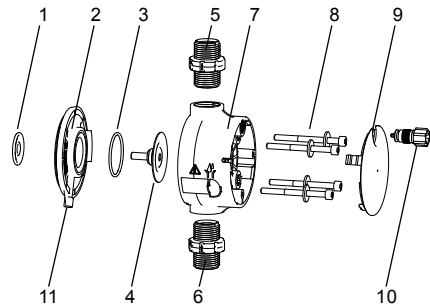

Fig. 10 Dosing head, exploded view
Daily	Check, if liquid leaks from the drain opening (fig. 10, pos. 11) and if the drain opening is blocked or soiled. If so, follow the instructions given in section 7.4 Diaphragm breakage .
This section refers to fig. 10.
If the diaphragm leaks or is broken, dosing liquid escapes from the drain opening (fig. 10, pos. 11) on the dosing head.
In case of diaphragm breakage, the safety diaphragm (fig. 10, pos. 1) protects the pump housing against ingress of dosing liquid.
When dosing crystallising liquids the drain opening can be blocked by crystallisation. If the pump is not taken out of operation immediately, a pressure can build up between the diaphragm (fig. 10, pos. 4) and the safety diaphragm in the flange (fig. 10, pos. 2). The pressure can press dosing liquid through the safety diaphragm into the pump housing.